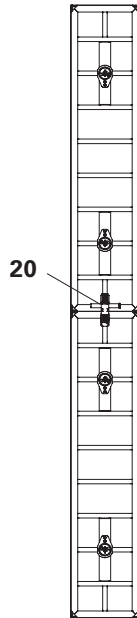

Fig. B7.01a
For extension units height  $\leq 5.40$  m, Alignment Couplers BFD (20) are to be used on panel joints. (Fig. B7.01a – B7.01d)